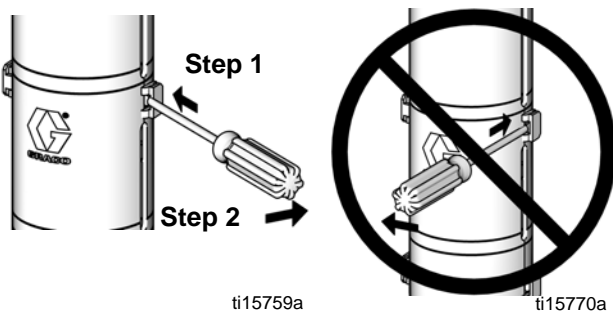

FIG. 3. Shield Disassembly
3. Remove the 2-piece shield (22) by inserting a screwdriver straight into the slot, and using it as a lever to release the tab. Repeat for all tabs. **Do not** use the screwdriver to pry the shields apart. See FIG. 3.